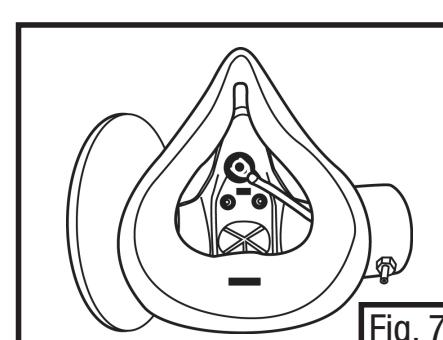

Fig. 7
9. Fasten the suction cup to the inside surface of the respirator facepiece of full facepiece nose cup. The suction cup should be located between the nose and mouth of the test subject. It may be necessary to moisten the suction cup to make it stick. Make certain the sampling tube is not crimped or kinked. (Fig. 7)